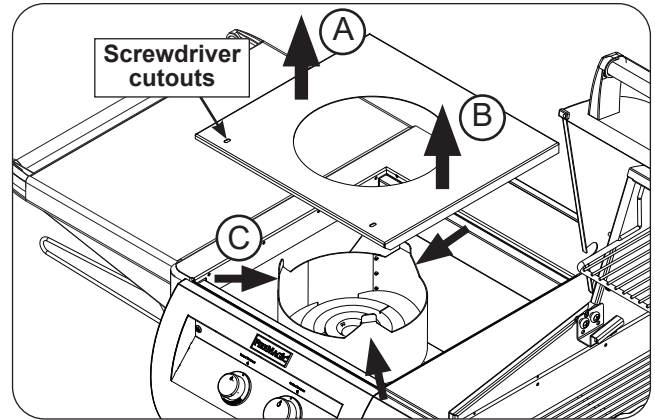

Fig. 46-1 Interior protection plate removal
2. Lift up the interior protection plate from the left side, then lift up from the right side (see Fig. 46-1, A and B).
3. While lifting the plate upward, flex the collimator inward to completely free the protection plate (see Fig. 46-1, C).